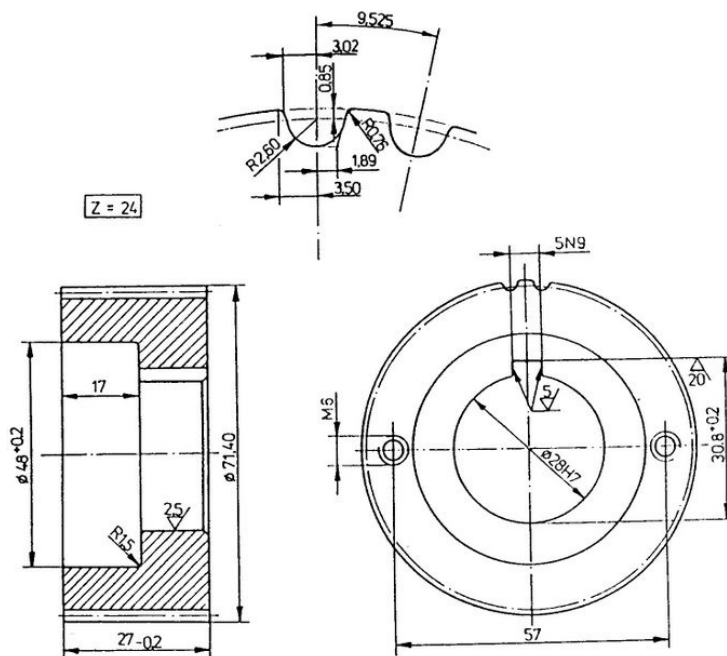

Fig. 50. Crankshaft gear
- Check teeth of a hole surface diameter 28H7 and a groove for a key (Fig. 50). Replace a toothed gear if a whole diameter is greater than 28.025 mm or if a groove width is greater than 5.00 mm. A key and guiding disc should be replaced when they are damaged. A key width should be 4.964...5.000 mm.